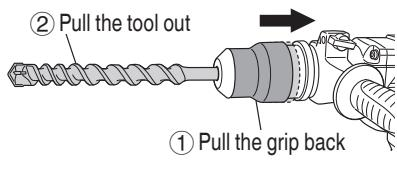

Fig. 3
- (4) To remove the tool, fully pull the grip in the direction of the arrow and pull out the tool (Fig. 3).